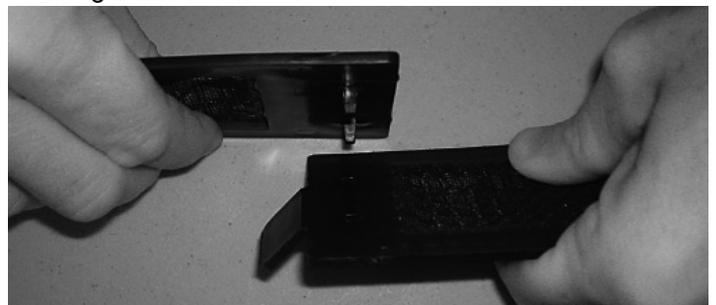

Figure 6
2. Connect the end sections (See Figure 6) to form one long filter.